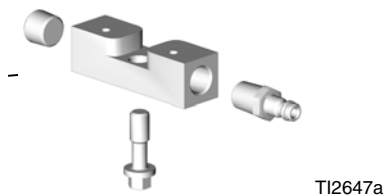

FIG. 17: Flush Manifold
4. Install flush hoses to flush manifold 15B817. See FIG. 17. Install flush manifold onto gun. Torque flush manifold bolt to 20-30 in-lb (2.26-3.39 N•m).